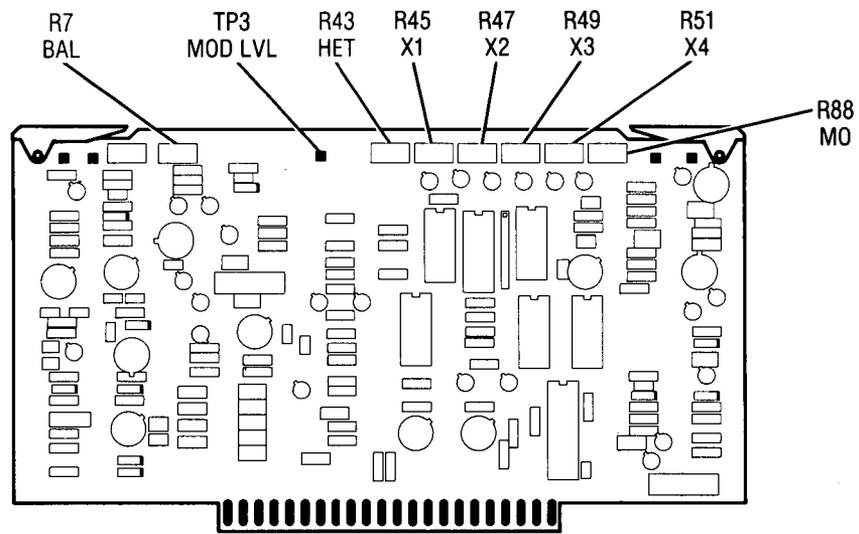

Figure 5-54. SRD Bias Adjustments on A22 and A26
2. Connect the DVM to A26TP3 (MOD LVL). Preset A26R88 (MO) fully clockwise (Figure 5-54). Turn the DUT's LINE switch ON and allow 30 minutes warm up.